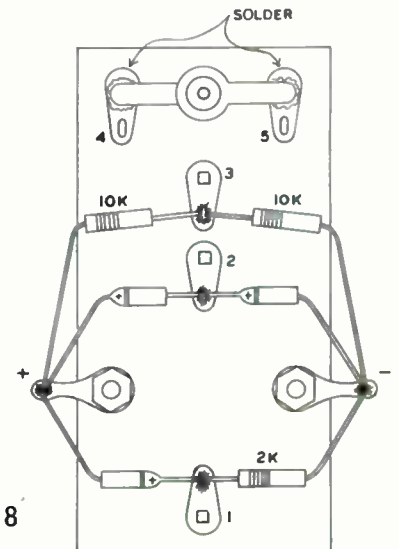

Figure 8
- ( ) Solder the pilot light socket to the terminals as shown in Figure 8 (S).
- ( ) Connect a  $2\text{K}\Omega$  resistor between lug 1 (NS) and the negative (-) lug (NS).
- ( ) Connect a crystal diode with the cathode lead (marked with a band, letter "K", arrow point or a dot) to lug 1 (S) (2). Connect the other lead to the positive (+) lug (NS).
- ( ) Connect a second crystal diode with the cathode lead to lug 2 (NS) and the other lead to the negative lug (NS).
- ( ) Connect a  $10\text{K}\Omega$  resistor between lug 3 (NS) and the negative lug (S) (3).
- ( ) Connect a third crystal diode with the cathode lead to the positive lug (NS) and the other lead to lug 2 (NS).
- ( ) Connect another  $10\text{K}\Omega$  resistor between lug 3 (NS) and the positive lug (S) (3).